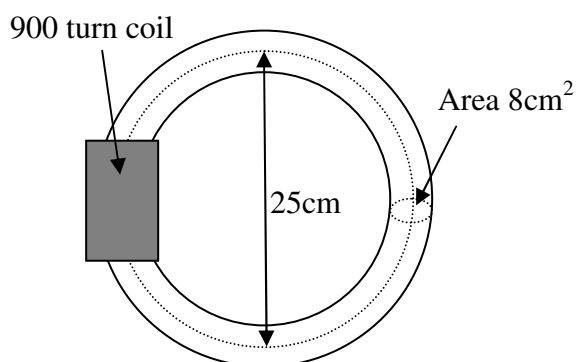

Figure 1.1
- a. A coil of 900 turns is wound on a toroidal iron core having of mean diameter 25cm and cross-sectional area 8cm^2 as shown in Figure 1.1. The core has a relative permeability, $\mu_r = 1000$. (Assume the permeability of free space, $\mu_0 = 4 \times \pi \times 10^{-7} \text{H/m}$.)